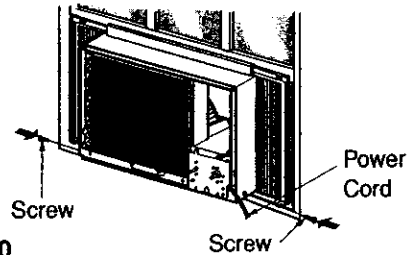

Figure 110
11. Slide the chassis into the cabinet. (See Figure 110)